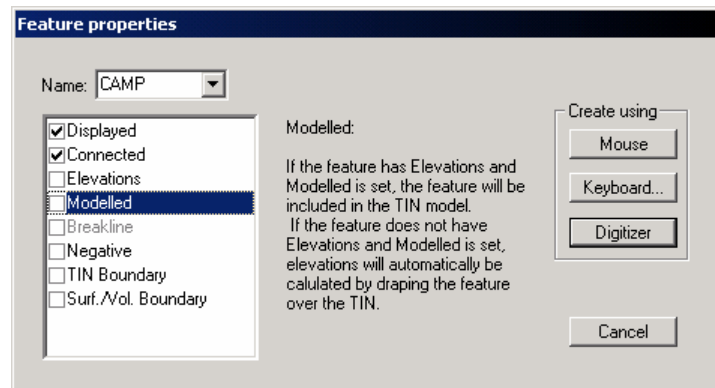

Figure 3.19: New Feature Properties Dialog
2. Edit | New Feature to activate the *Feature Properties* dialog box. Select CAMP from the *Name combobox*. Turn off *Elevations* and *Modelled* as shown in Figure 3.19. Press the *Mouse* button.